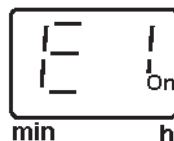

Fig. 23 Display of the malfunction E1, failure to build pressure at the pump.
- If there is no feedback from the pressure switch or pressure transducer within 12 minutes of pumping time, the pump switches off immediately. One of the fault signals E1 to E4 (Error, Fig. 23 to 26) will be shown flashing in the display of the membrane key pad.